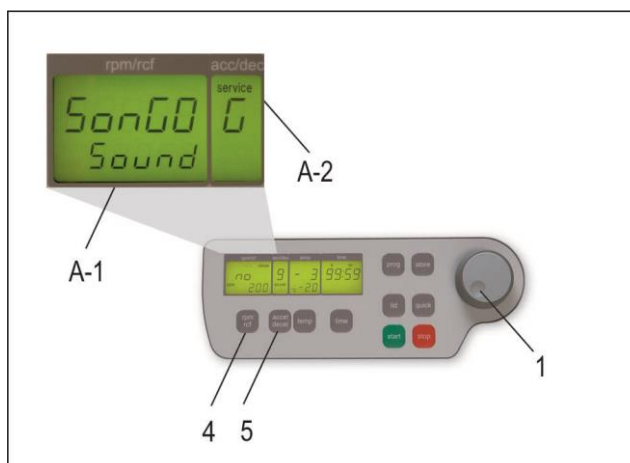

Figure 7
Proceed as illustrated, under point 1.8.1, to enter this program mode, press the key, "accel/decel" (5). In the display, "accel/decel" (A-2) flashes the word, "service". Select the letter, "G" with the adjustable knob (1). As a result, appearing in the display, "rpm/rcf" (A-1), the word "SonGo/Sound". After pressing the key „rpm/rcf“ (4), select a song with the adjusting knob (1), (see Figure 7).